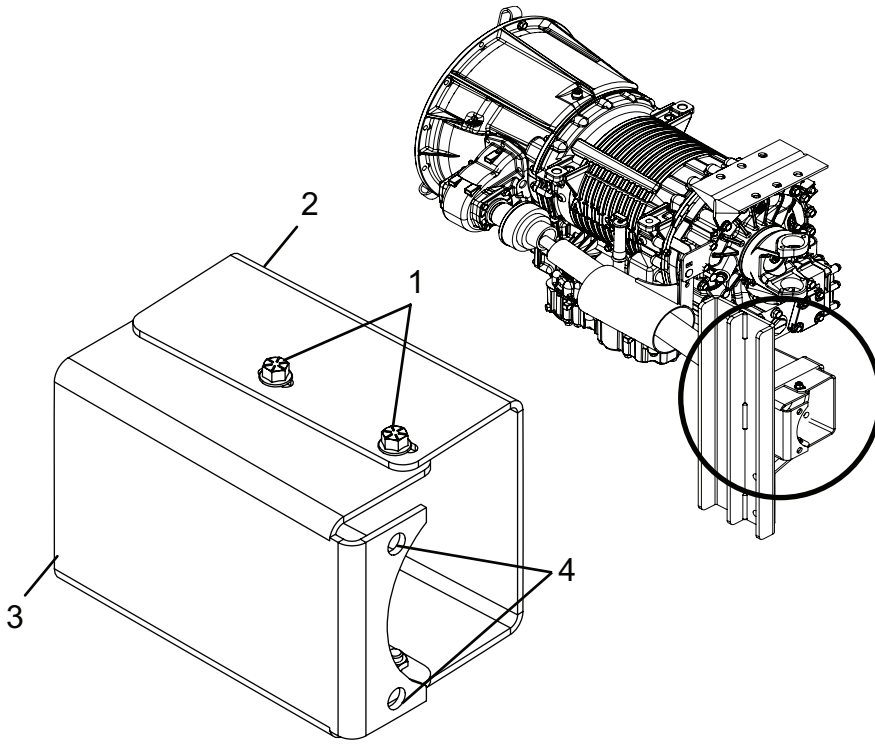

Figure 4
3. Remove and retain the hardware (located on topside and bottom side of the cover) (Figure 4, Item 1) from the square Pump Mount cover (Figure 4, Items 2 and 3).
4. Remove and retain the hardware connecting the square pump mount cover to the pump (hardware not shown, but location shown in Figure 4, Item 4).
5. Remove both halves of the square pump mount cover (Figure 4, Items 2 and 3).
6. Retain the pump mount cover half that **was not connected** to the pump (Figure 4, Item 2).
7. Discard the pump mount cover half that **was connected** to the pump (Figure 4, Item 3).